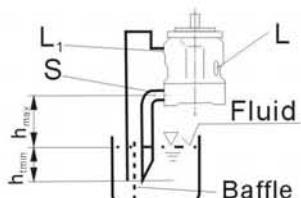

Fig.2
- If the minimum fluid level is below the pump mounting face pipe port "L1" and "S" according to Fig.2.
Before installation fill the pump housing, keeping it in a horizontal position. For mounting above reservoir see Fig.2.